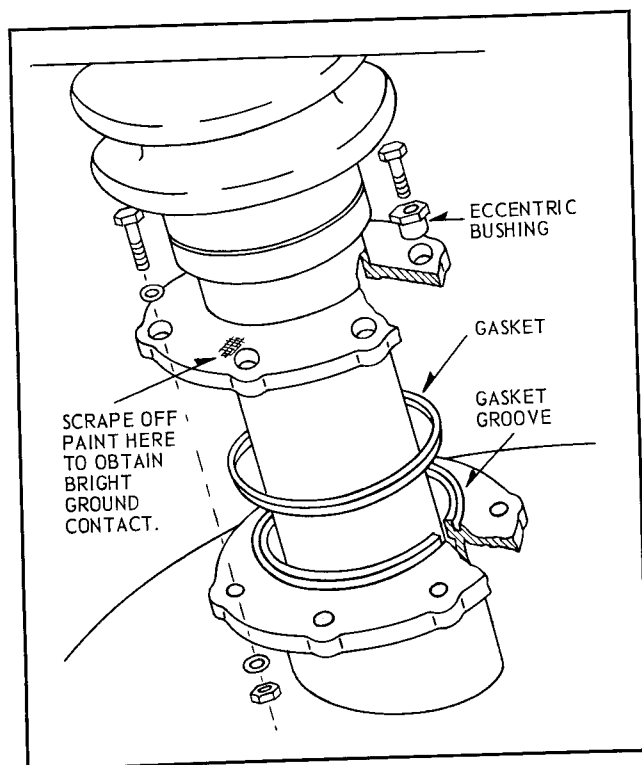
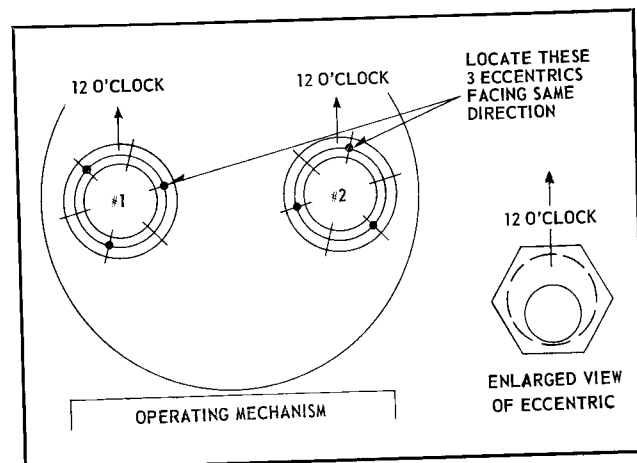
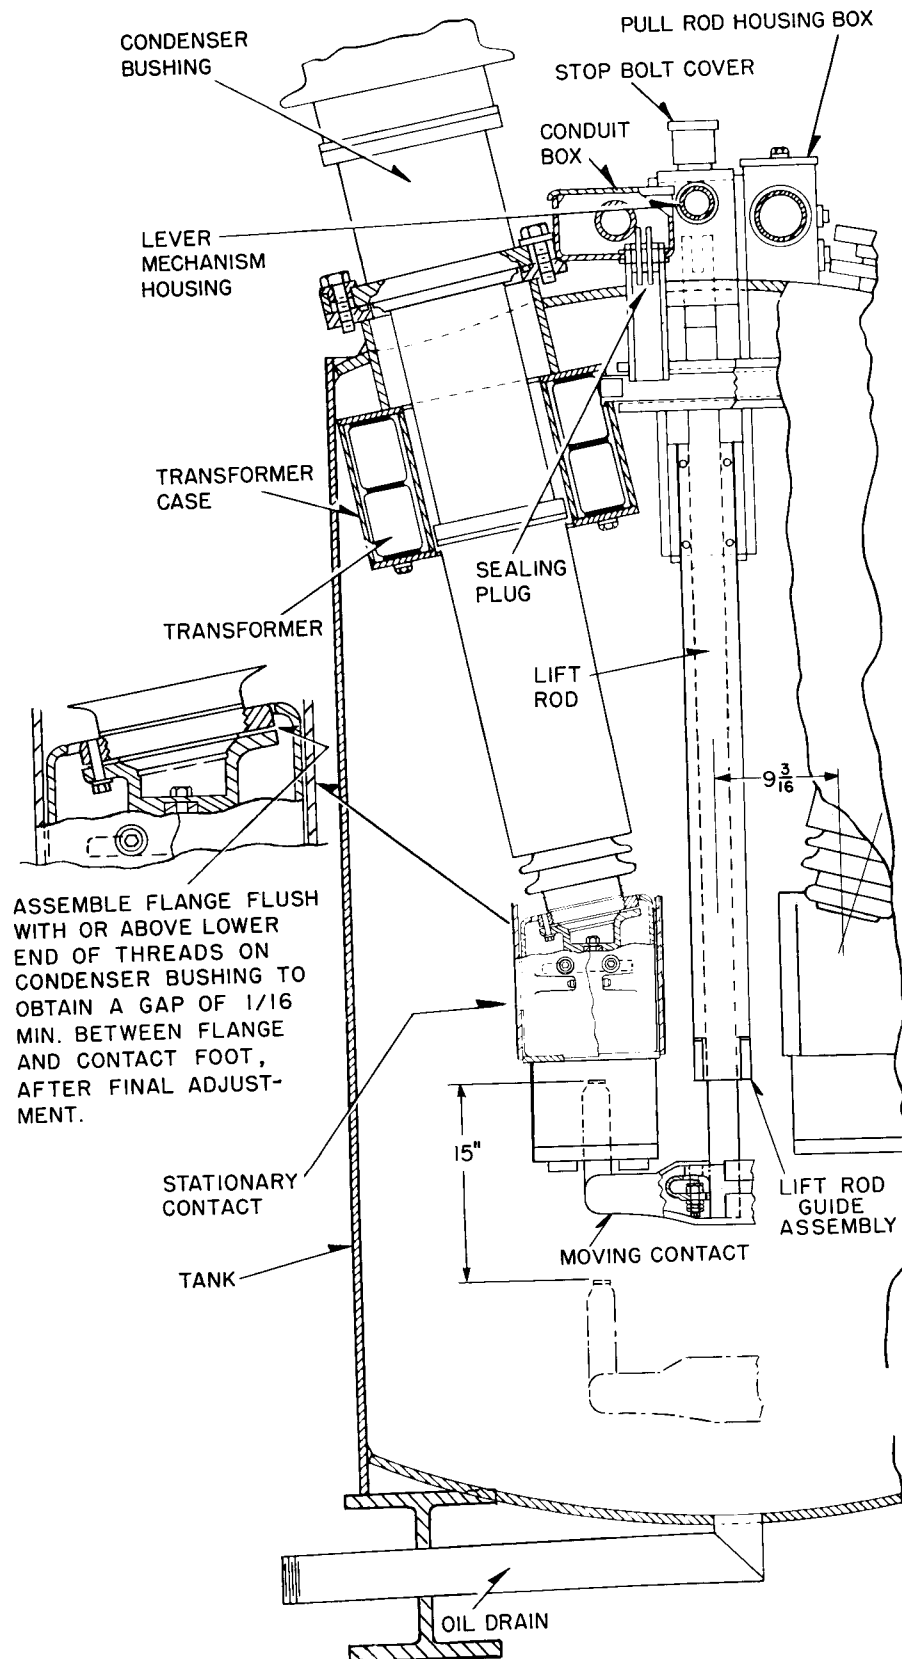
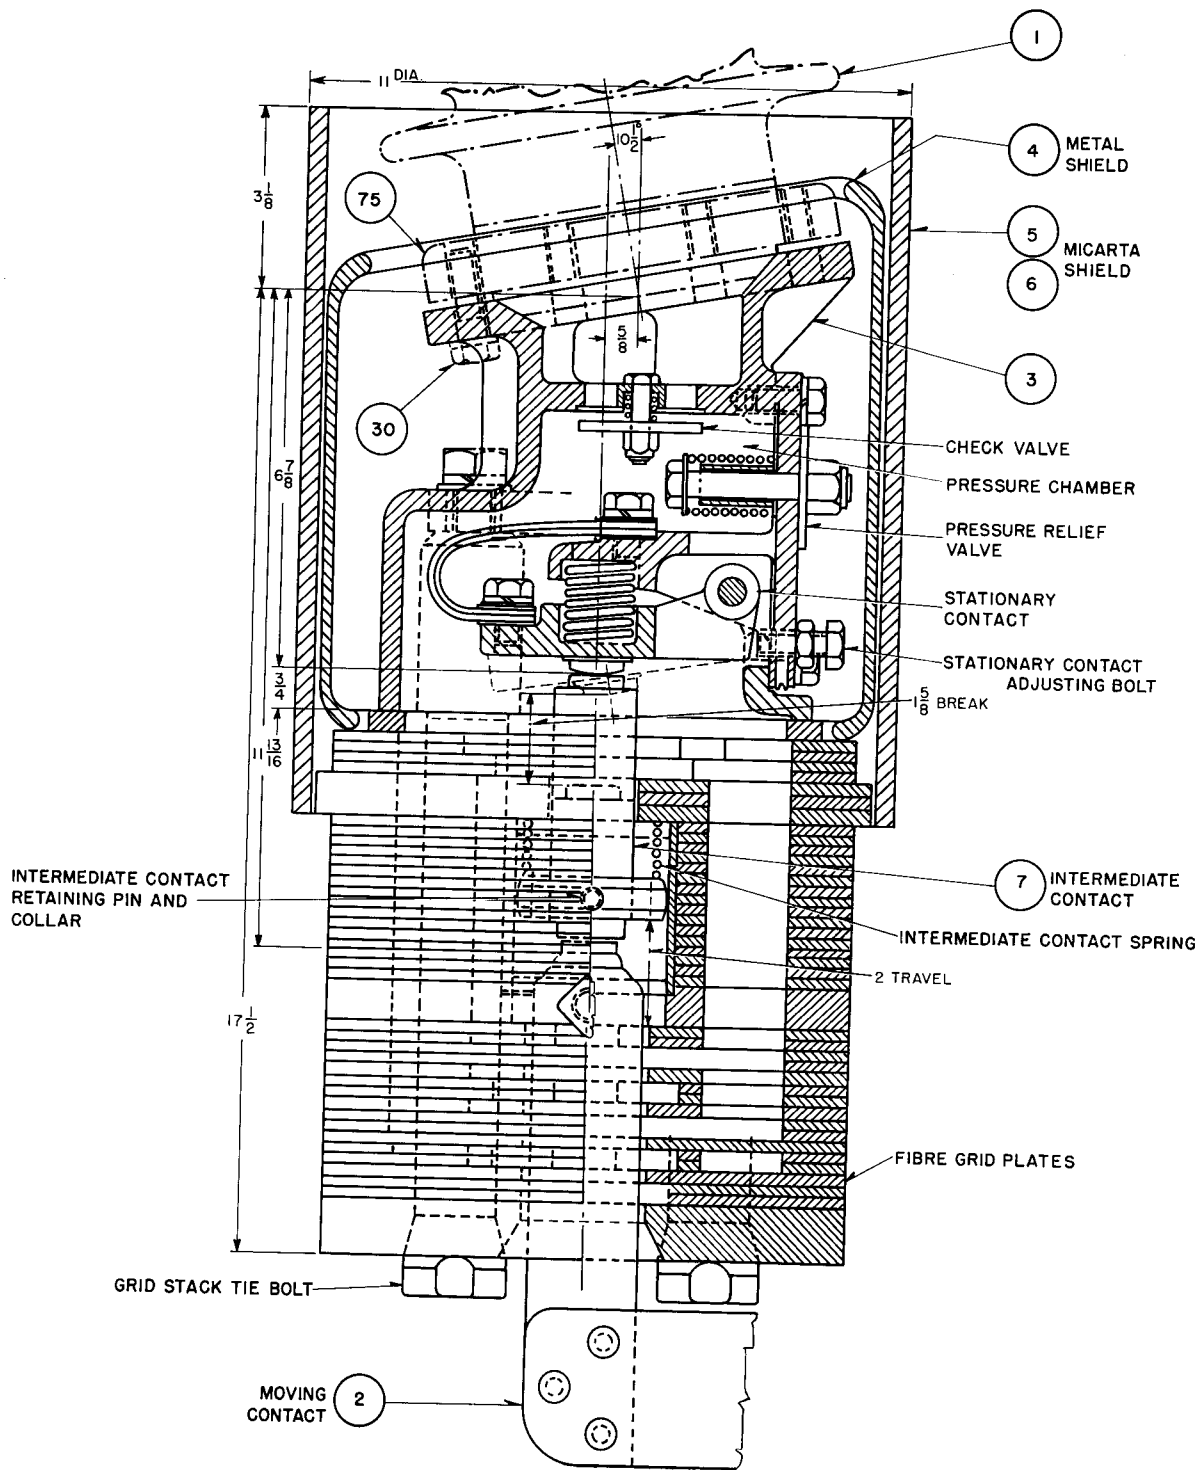

FIG. 8. Installing a Condenser Bushing
FIG. 9. Eccentric Locations for 115 and 138 Kv. Breakers
FIG. 11. Section View of Pole Unit Assembly and Moving Contact Travel Dimensions
FIG. 12. Contact Assembly
2. Cement gasket to tank flange and apply vaseline between gasket and condenser bushing. The vaseline will permit shifting the bushing without damaging the gasket. Lower the bushing into place as per Fig. 8 with eccentrics located as per Fig. 9. Before tightening the holding bolts, the bushings should be accurately aligned with respect to the centerline of the tank and lower ends spaced the proper distance apart. (See Pole Unit End View drawing Fig. 11.) Two open end wrenches per order or station are furnished for adjusting bushing eccentrics. To assist in assembling breakers which are shipped dismantled refer to copy of drawing 127-A-538 (for 115 KV and 138 KV breakers) filed in the pocket on inside of the mechanism housing door. On this drawing are noted the eccentric positions determined during factory assembly for test.
3. Make sure a bright ground contact is made between the bushing flange and the breaker tank before finally tightening down the flange bolts. This can be accomplished by scraping off the protective paint beneath one bolt head on each bushing flange. (See Fig. 8.) It is advisable to check this
To do this conveniently, remove Micarta shield (5) and upper metal shield (4) in the order stated. See Fig. 12. Then remove the flange (75) from contact foot (3). Screw the flange on the condenser bushing stud. Care must be taken to prevent cross-threading or damage to either threaded member. As indicated in the note on pole unit assembly Fig. 11 the flange (75) Fig. 12 is to be screwed on the bushing stud so the lower surface of flange is flush with or higher than lower end of threads on condenser bushing stud to obtain a gap of  $\frac{1}{16}$ " min. between flange (75) and contact foot (3) after final adjustment. The gap is necessary for locking the threads on flange and stud on pulling up the 8 bolts (30) through the foot so the contact assembly cannot turn on the stud. Do not draw up bolts to final tightness as it may be desirable to shift the assembly slightly in final aligning of the contacts. The contacts on the two bushings must be located at as nearly same height as possible. Do not tighten the bolts (30) or assemble the contact shields until the moving contacts have been assembled and final adjustment made.